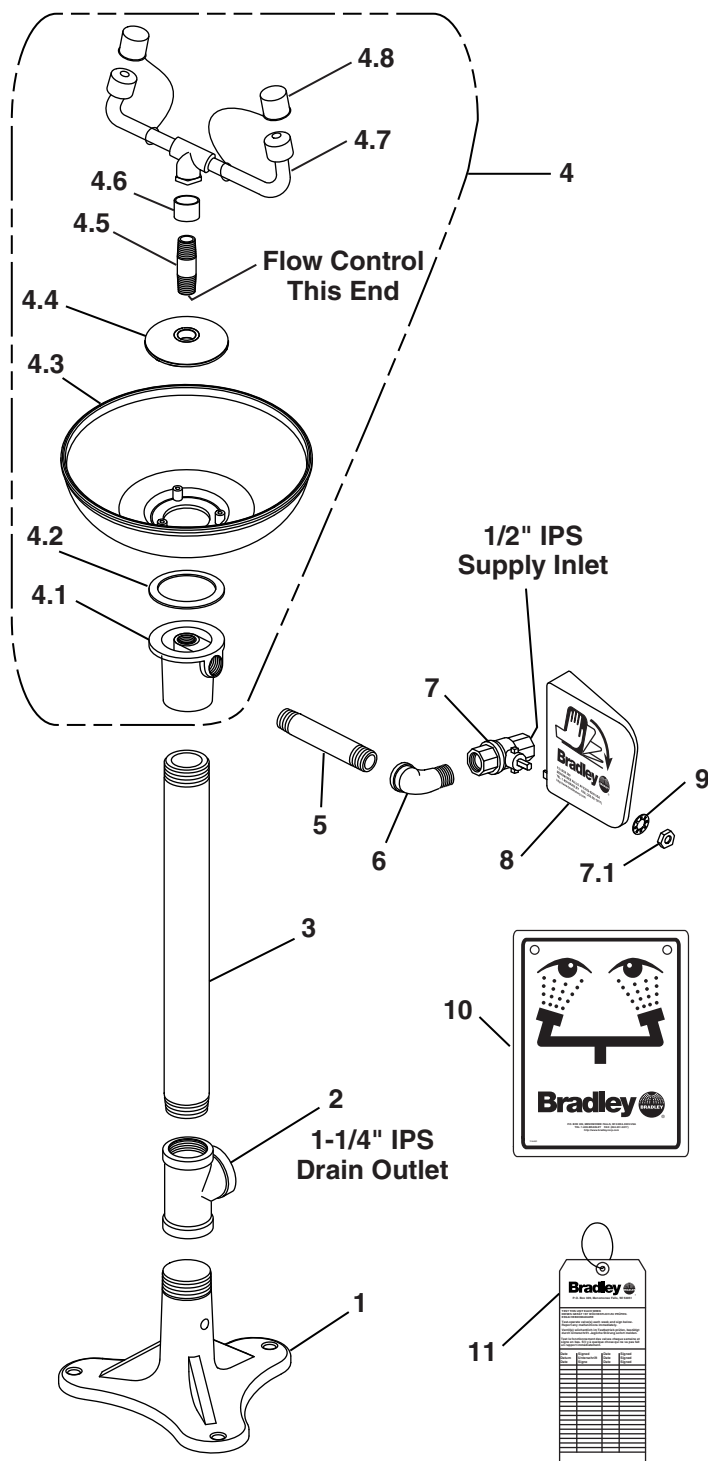
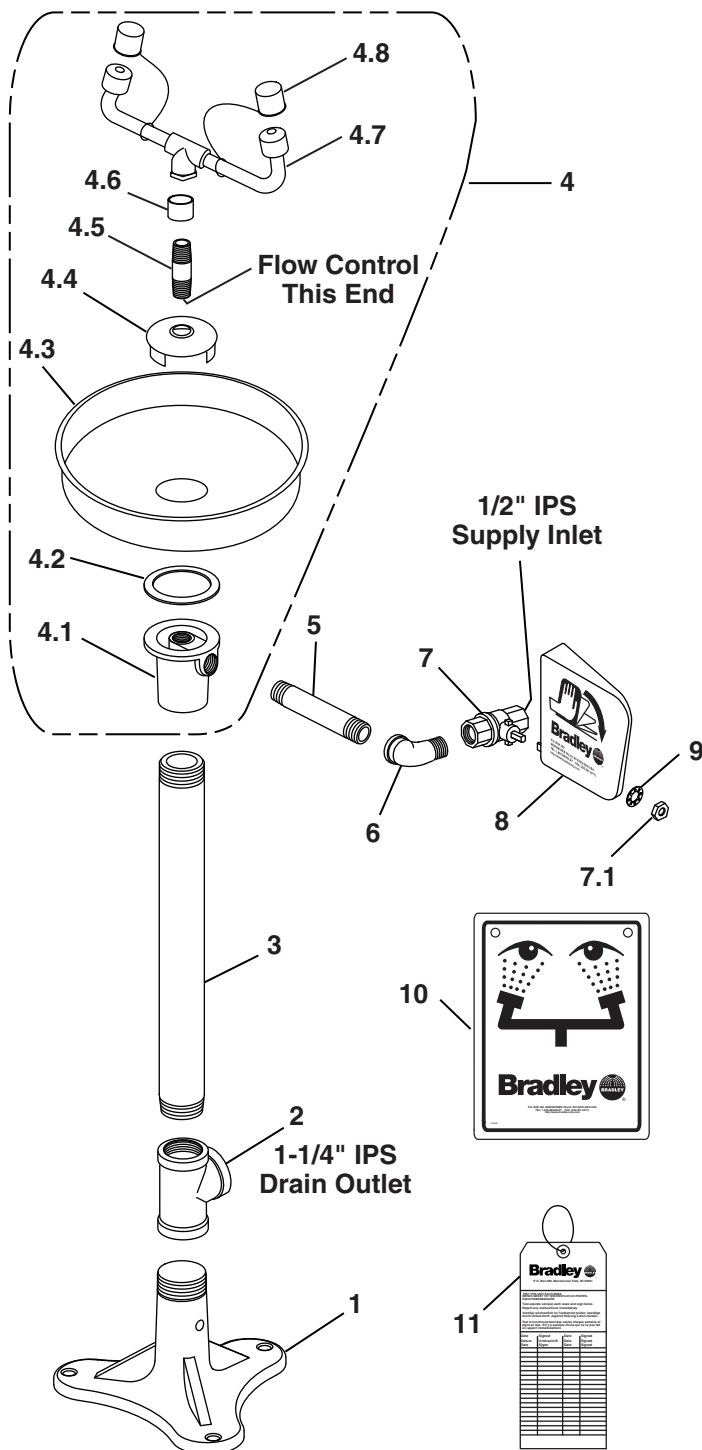

Figure 2a
Figure 2b
1. Assemble eyewash components as shown in Figure 2a on page 4 (for unit with plastic bowl) or Figure 2b on page 5 (for unit with stainless steel bowl).